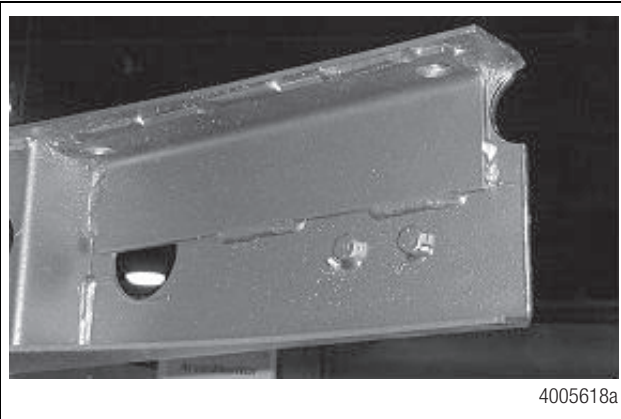
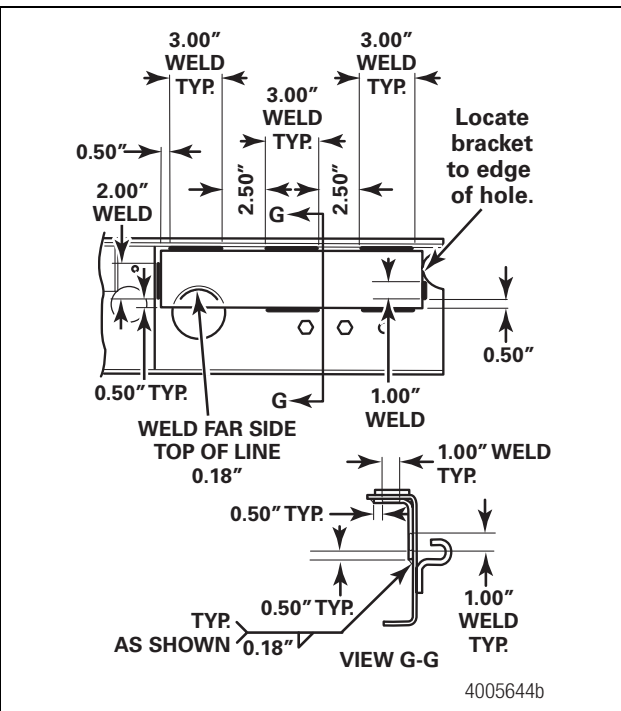

Figure 35
Figure 36
8. Position and weld the enhancement angles at the extreme rear. You may need to modify the air tank bracket to install the enhancement angle. Refer to Figure 35 and Figure 36.